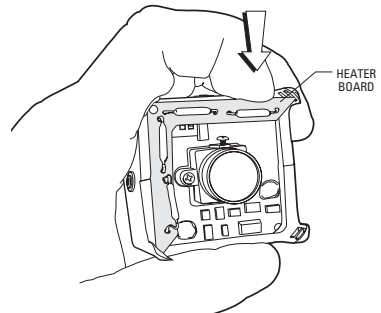

Figure 14. Removing Heater Board
1. Loosen the locking screw on the bottom of the lens. To loosen the screw, it may be necessary to remove the heater board. Refer to Figure 14 and the accompanying steps.